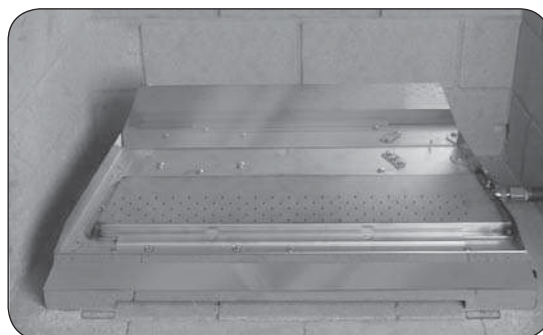

Fig. 14-4 Front cover installed
7. Remove the protective coating off of the reflective rear panel and front cover. **DO NOT** use a sharp object to remove coating. Install the front cover onto the front of the burner system (see Fig. 14-4).